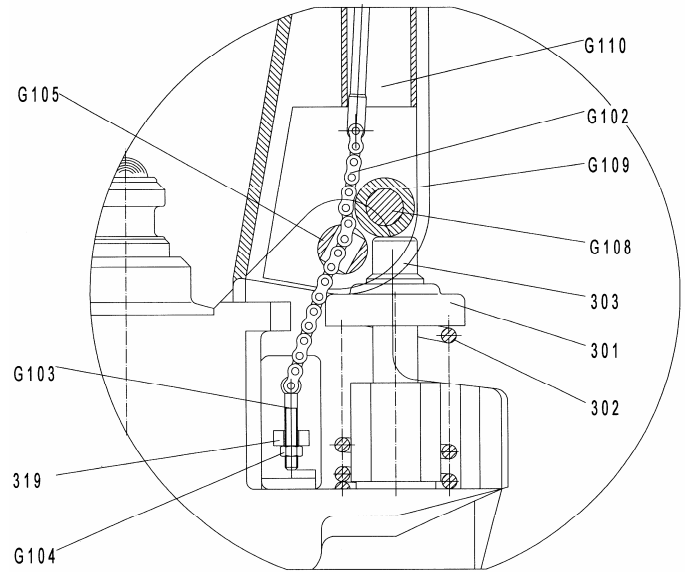

Fig. 3
2.2 Let control handle(G117) to the '**LOWER**' position, then pass the adjusting nut(G104), adjusting bolt(G103) and chain(G102) through the hole of axle(G105) with your hand (See fig. 3).